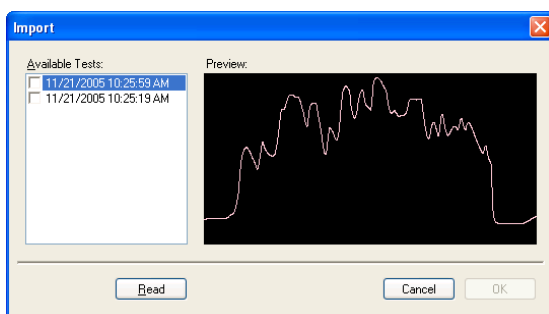

Figure 55: Open Import Window and Click "Read" to Display Stored Files
- Steps 2 - 4 will open the Import window. Click the Read button to display all available files for download from PGA-710 by Date and Time recorded. The highlighted file will be previewed in the adjoining window as in Figure 55.